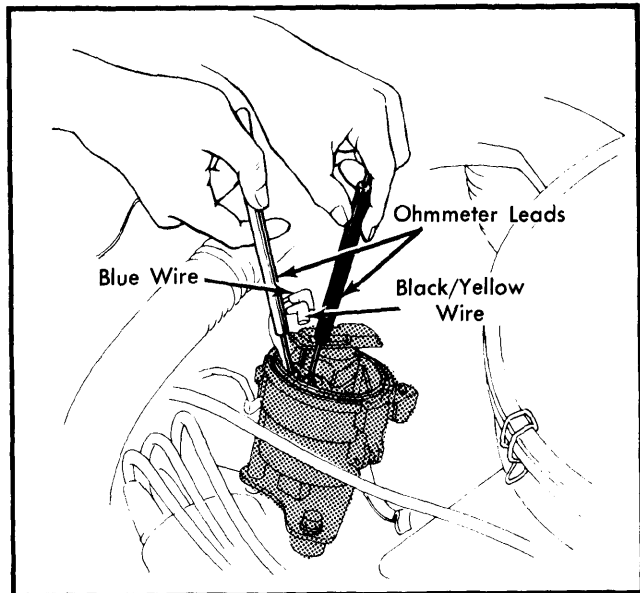

Fig. 7 Checking Continuity at Ignitor Terminals (All Civics & Calif. Accord & Prelude Auto. Trans.)
8) If not, check wiring from ignition coil to ignitor. On Civic models and California Accord and Prelude models with automatic transmissions, check continuity between ignitor terminals. See Fig. 7. Set ohmmeter to x100 range. Attach positive lead to black/yellow wire and negative lead to blue wire. There should be no continuity.